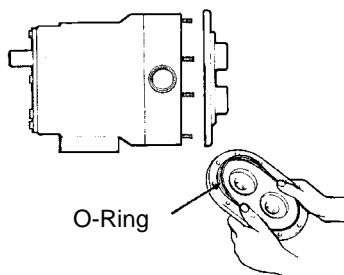

Figure 32 - Remove O-Ring
2. Remove the cover. If it is stuck, loosen it with a soft hammer. Remove and discard the cover O-ring (Figure 32).